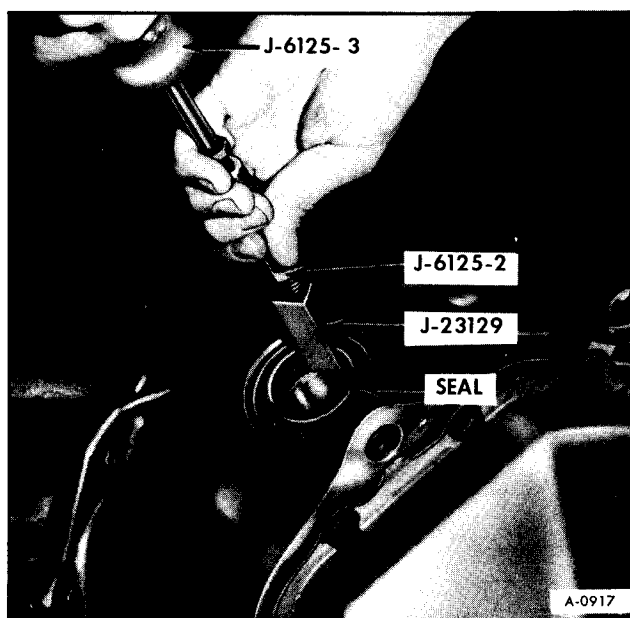

Figure 5—Removing R.H. Output Shaft Seal
6. If output shaft seal is to be replaced, install Seal Remover J-23129 into seal and drive seal out with a hammer. (figure 5)